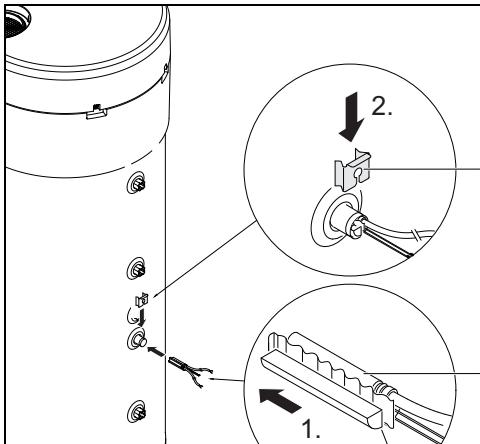

Fig. 11
- Install the installation set [1], the temperature sensor NTC of the accessory [2] and position them as shown in Fig. 11.